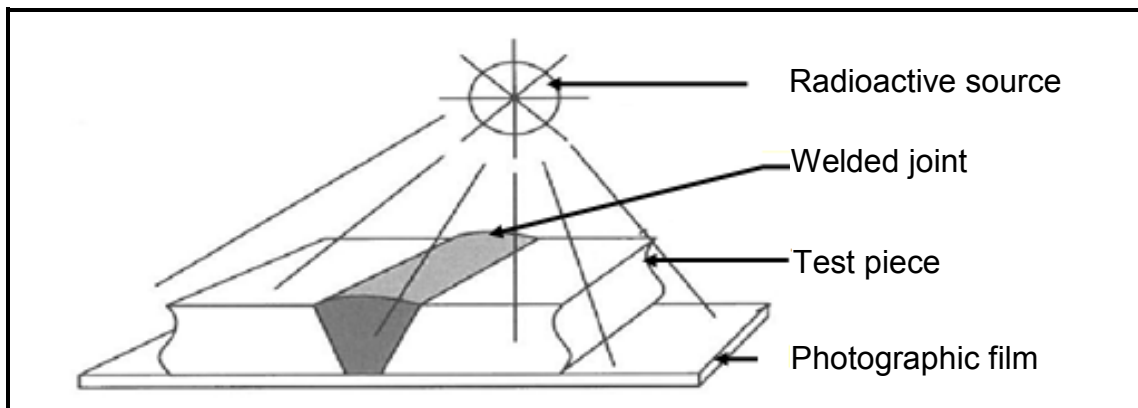

FIGURE 4.10
4.10 Which testing process is represented in FIGURE 4.10 below?